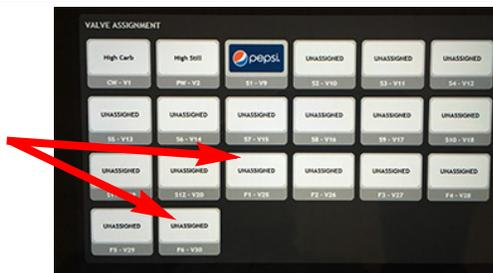

Figure 29
9. Repeat the valve mapping process (Step 6 through Step 8) for Flavor Shots (Figure 29).